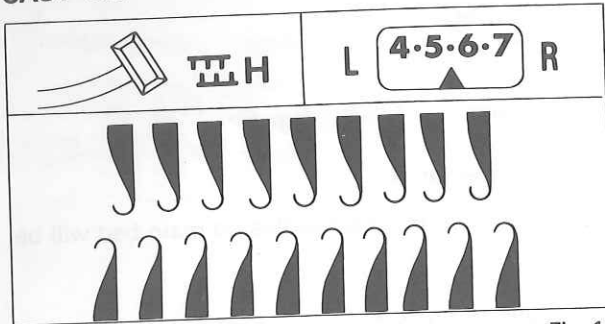

Fig. 1
- 1 Half pitch lever H <Fig. 1>
- 2 Set needles as shown. <Fig. 1>